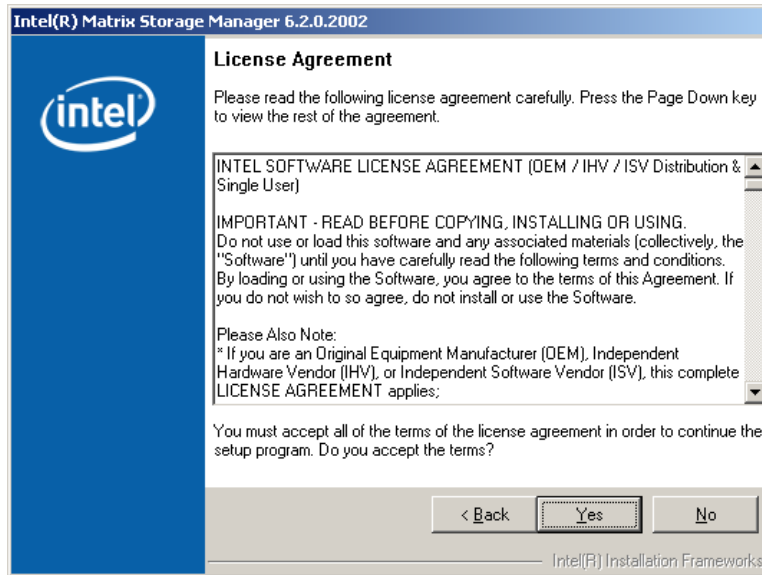

Figure 6-44: Matrix Storage Manager License Agreement
Step 9: Click **NEXT** and a license agreement appears (**Figure 6-44**).